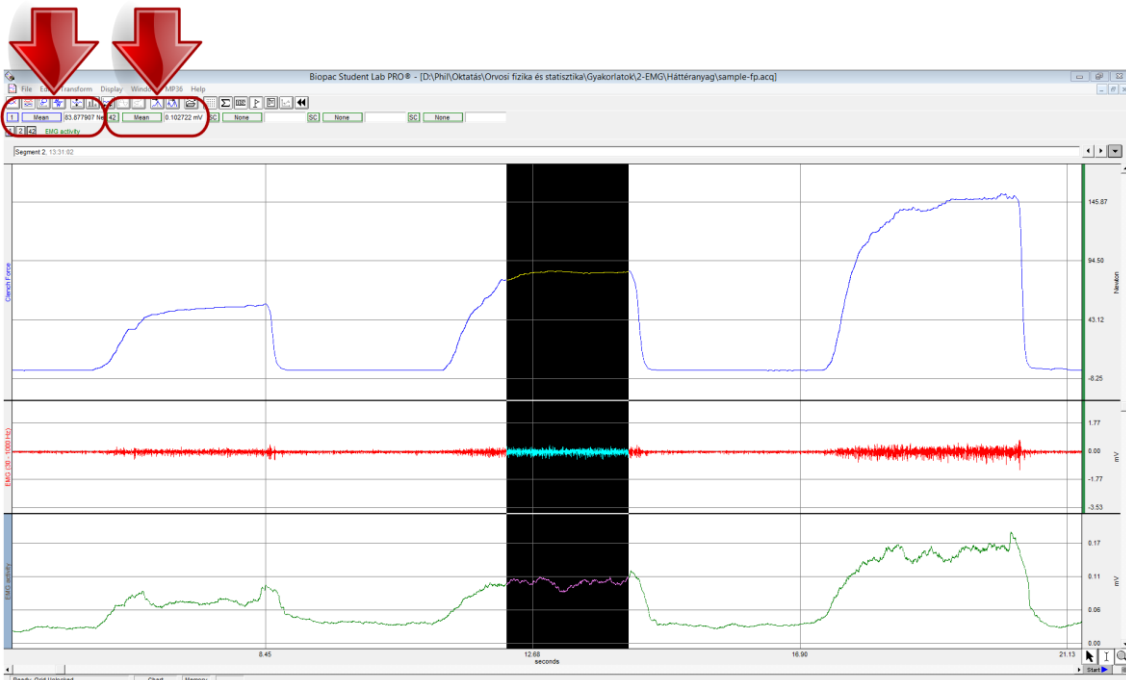

Figure 3. Selecting a grip force plateau and determining the relevant mean values.
- Establish the relationship between the grip force and the smoothed EMG activity from at least 4 successive short grip manoeuvres of  $\approx 2$ -s length: select the grip force plateaus and read the plateau mean values of the force and the EMG activity (see Figure 3).